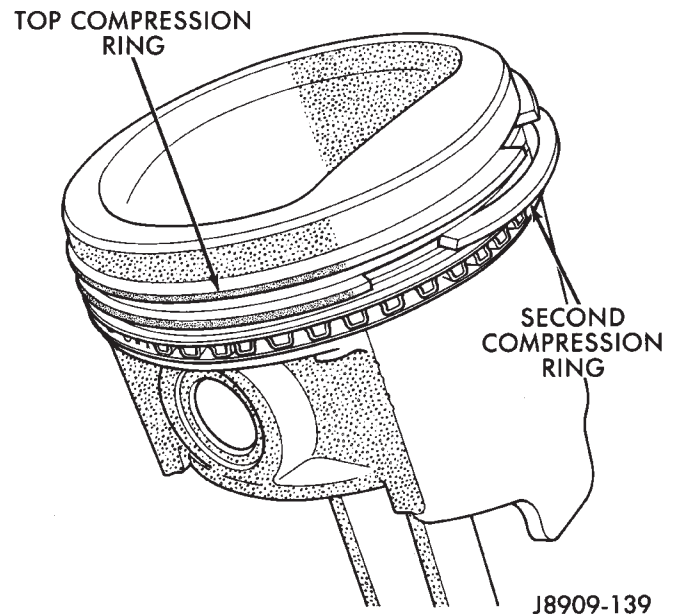
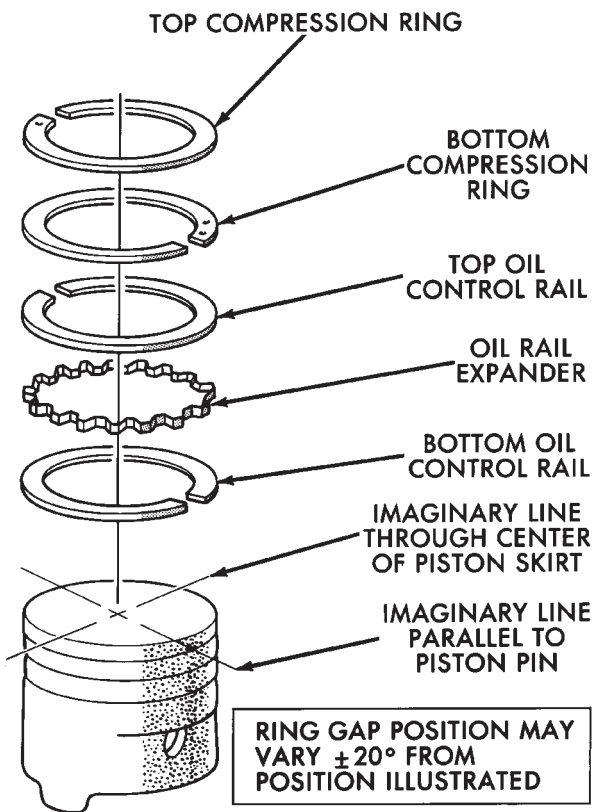

Fig. 22 Compression Ring Location
Fig. 21 Ring Gap Position
(4) Position the ring gaps and install piston rings (Fig. 21).
(5) Install the oil control rings according to instructions in the package. It is not necessary to use a tool to install the upper and lower rails. Insert expander ring first, then side rails
(6) The two compression rings are different and cannot be interchanged (Fig. 22). The top ring is a moly ring (the scraping edge is gray in color). The second ring is a black cast iron ring (the scraping edge is black in color when new).
(7) The compression rings can be identified by a chamfer of either the top or bottom inside edge (Fig. 22). The rings may also be identified by 1 or 2 dots on the top surface of the ring.